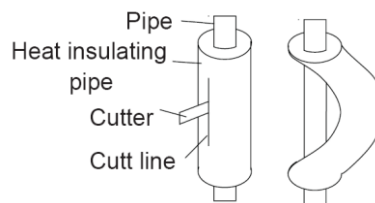

Figure 3-2-5
(2) Do not bend the pipes in an angle more than 90°.
(3) When pipes are repeatedly bent or stretched, the material will harden, making it difficult to bend or stretch them any more. Do not bend or stretch the pipes more than three times.
(4) When bending the pipe, do not bend it as is. The pipe will be collapsed. In this case, cut the heat insulating pipe with a sharp cutter as shown in Figure 3-2-5, and bend it after exposing the pipe. After bending the pipe as you want, be sure to put the heat insulating pipe back on the pipe, and secure it with tape.